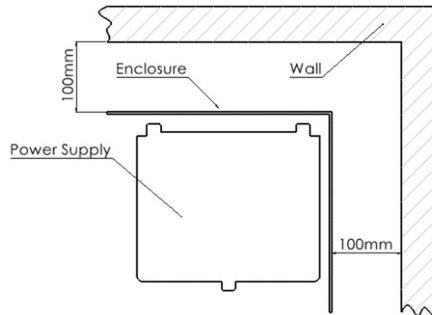

Figure 1: Mounting clearances
- Allow minimum clearance of 100mm between the enclosure sides and ceilings or adjacent wall (Figure 1). The enclosure must be mounted on a solid and continuous surface (e.g.: a wall, not a column).